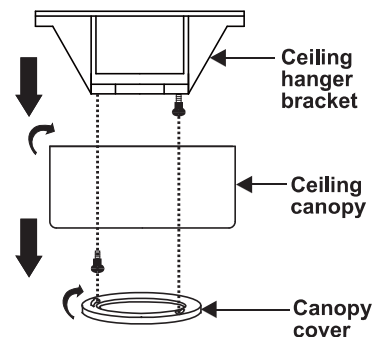

Figure 9
2. Remove the decorative canopy bottom cover from the canopy by turning the cover counter clockwise. (Fig. 9)
3. Remove the hanger bracket from the canopy by removing the 1 of 2 screws from the bottom of the hanger bracket and loosening the other one a half turn from the screw head. Next, turn the canopy counter clockwise to removing the hanger bracket from the canopy. (Fig. 9)